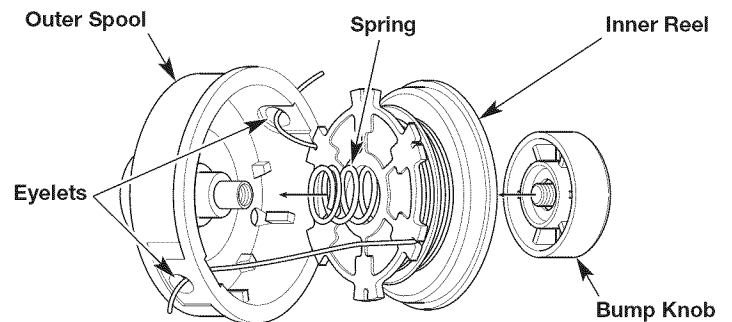

Fig. 15
1. Pass the two line ends through the eyelets in the outer spool. Place the spring inside the inner reel. Insert the inner reel into the outer spool. Push the inner reel and outer spool together (Fig. 15).